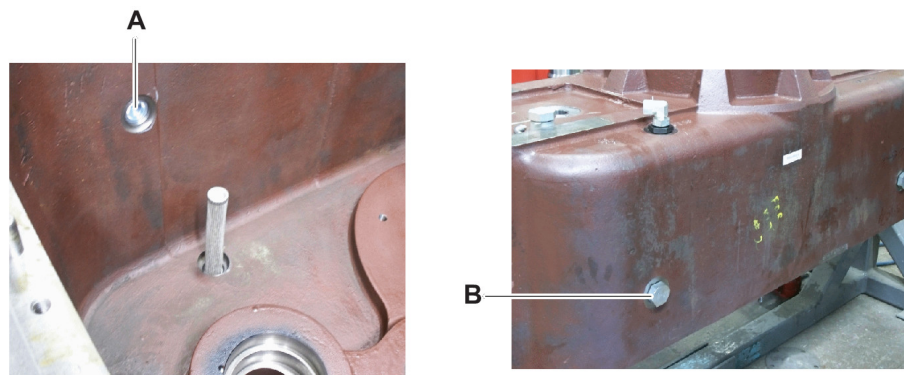

Figure 6
12. Before rotating housing to the upright position, install the bottom and side housing plugs (Figure 6, item B), sight glass (item A), and strainer into their dedicated places in the housing.